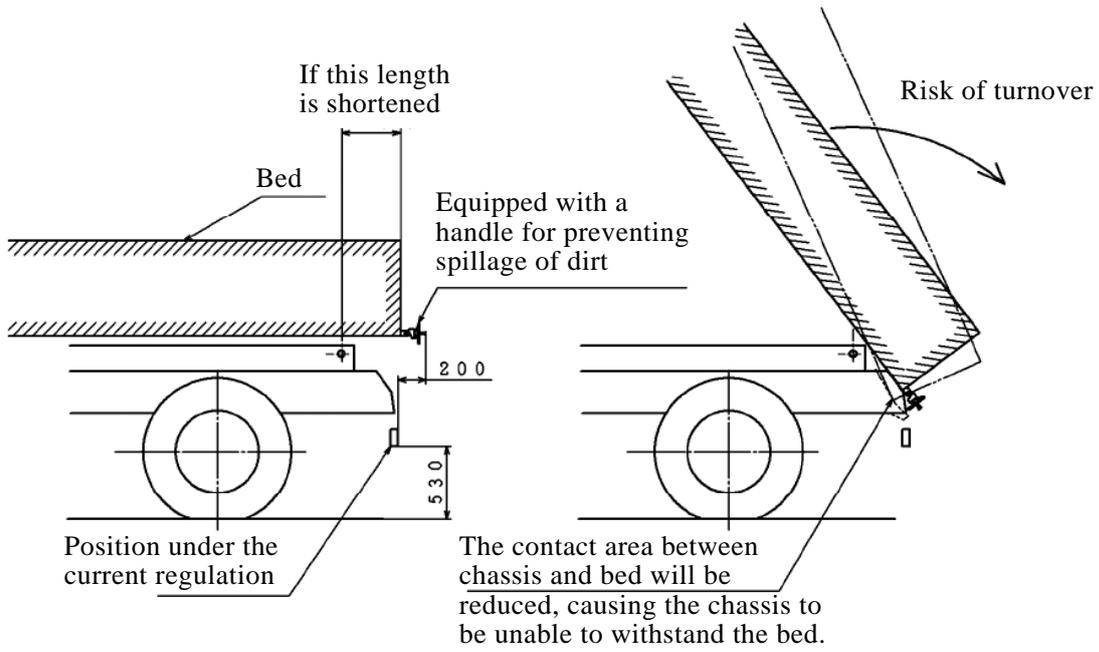

Figure 3 If the Dump Bed Length Is Shortened
4. With the distance from the RUPD being shorter, the distance from the dump hinge will also be made shorter. This will lead to malfunctioning of the stopper function in the event of over-dumping, causing damages to the chassis and risk of turnover. (Figure 3)